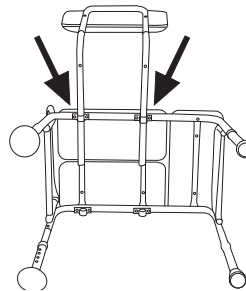

Figure 4
6. Insert backrest into base by pressing push pins and sliding supports through both receptacles. Note: backrest must go through both sets of receptacles to become secure. **(Figure 4)**.